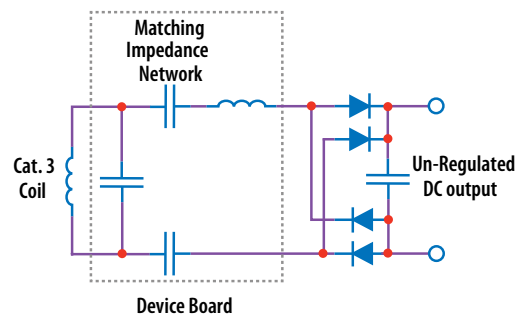

Figure 4: Basic Schematic of the A4WP Category 3 Device Board
Setting the correct time to establish ZVS transitions is critical to achieving high efficiency with the EPC9507 amplifier. This can be done by selecting the values for R71, R72, R77, and R78 respectively. This procedure is best performed using potentiometers P71, P72, P77, and P78 installed that is used to determine the fixed resistor values. The procedure is the same for both single ended and differential mode of operation (as applicable per operating mode). The timing MUST initially be set WITHOUT the source coil connected to the amplifier. The timing diagrams are given in Figure 4 and should be referenced when following this procedure. Only perform these steps if changes have been made to the board as it is shipped preset.
6. While observing the oscilloscope adjust P71 or P77 for the rising edge of the waveform so achieve the green waveform of figure 4. Repeat for the falling edge of the waveform by adjusting P72 or P78. Repeat for the other eGaN FET pair if using differential mode operation.
Figure 4 shows the basic schematic for the device coil which is Category 3 A4WP compliant. The matching network includes both series and shunt tuning. The matching network series tuning is differential to allow balanced connection and voltage reduction for the capacitors.